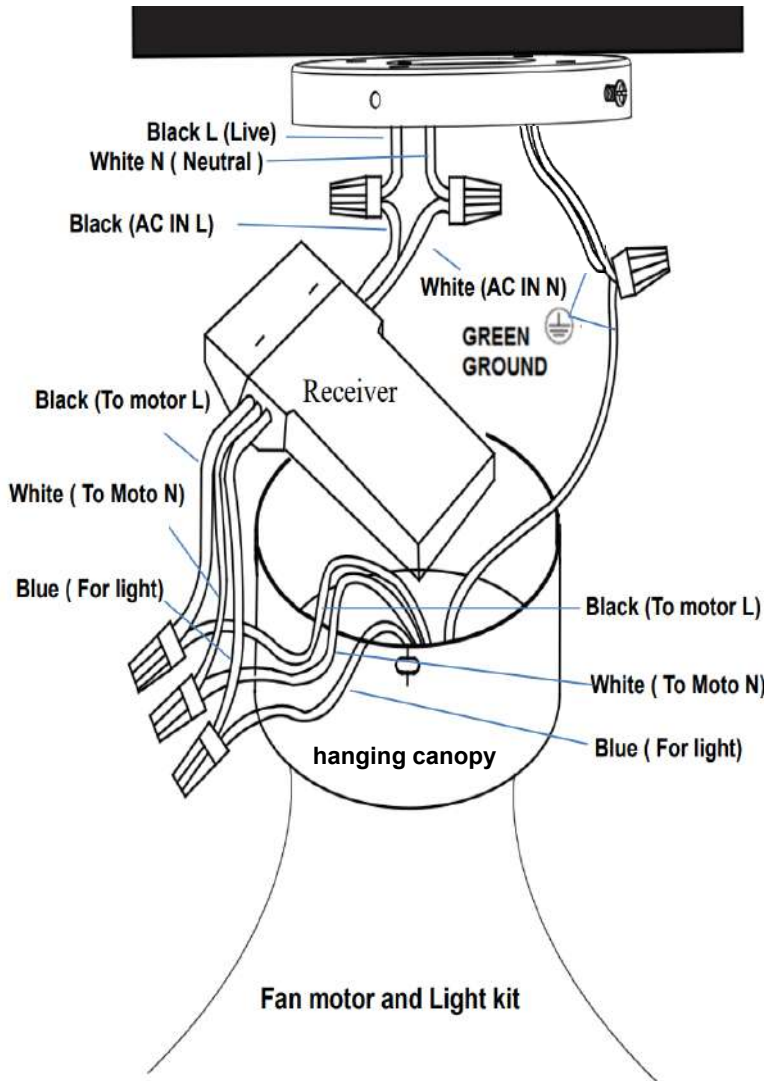

Fig. 7
Complete the electrical wiring using the diagram below **(Figure. 7)**.
Follow the steps below to connect the fan to your household wiring. Use the wire connecting nuts supplied with your fan. Secure the connectors with electrical tape. Make sure there are no loose wire strands or connections. **Fig. 7**
1. Connect the household live supply wire (black) to receiver input wire (black, AC IN L) as shown in **Fig. 7**